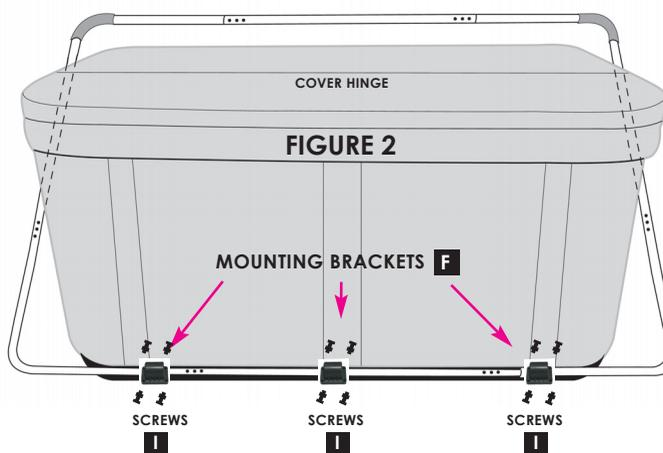

FIGURE 2
Space the MOUNTING BRACKETS (F) evenly across the width of the flat section of the spa cabinet. Do not install on the curve of the corners (Figure 2).